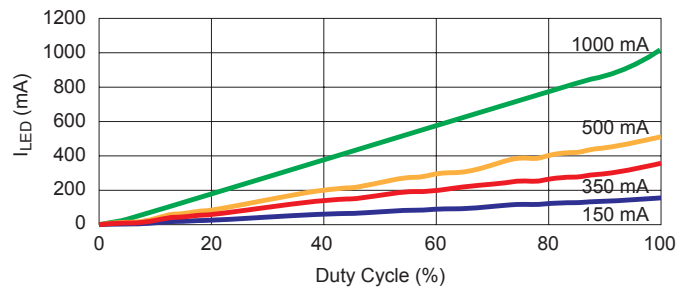

Figure 3. Total LED driving current for 4 LEDs in series
**PWM Dimming** By pulsing EN input at 100 to 300 Hz, LED brightness can be dimmed. Figure 3 shows LED current versus the duty cycle of the EN pin. The test was performed with four LEDs in series. The waveforms in figure 4 show how it works. The EN pin peak voltage should be in the range 3 to 5 V,